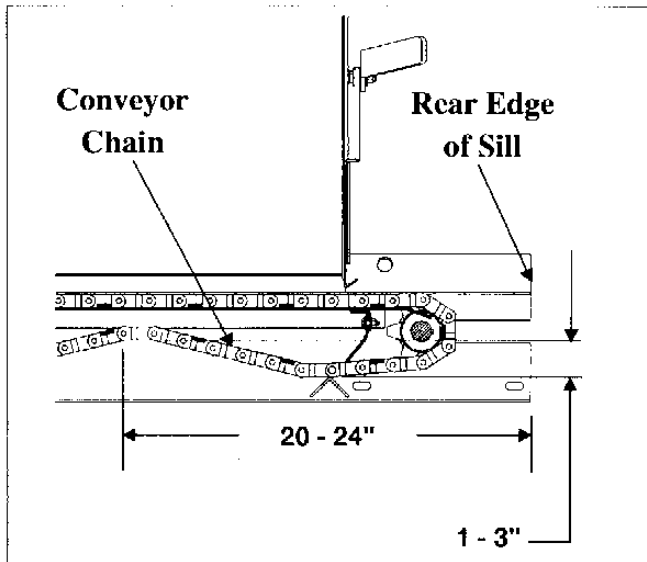

Figure 9
- Periodically check the conveyor chain tension. To check the tension, measure in 20"-24" from the rear edge of the sills. Push up on the chain with your hand. The conveyor chain should lift 1"-3" off the conveyor chain guide or cross angles. See Figure 9.